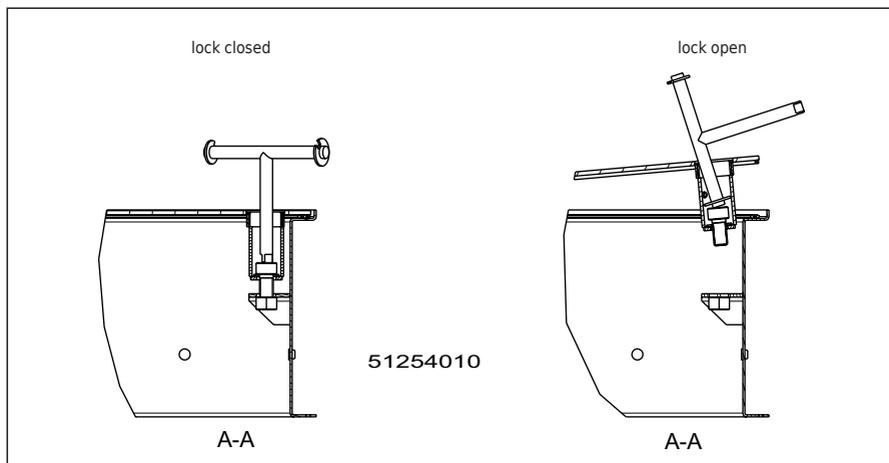

Fig. 10 – SD7 lock (without profile cylinder)
4. Turn the inserted operating key anti-clockwise until the screw joint becomes loose. Now insert the operating key with the side with the largest possible disc into the lock opposite the hinge side and lift upwards. If the manhole cover has several locks, proceed as described above to open all locks (figure 10).